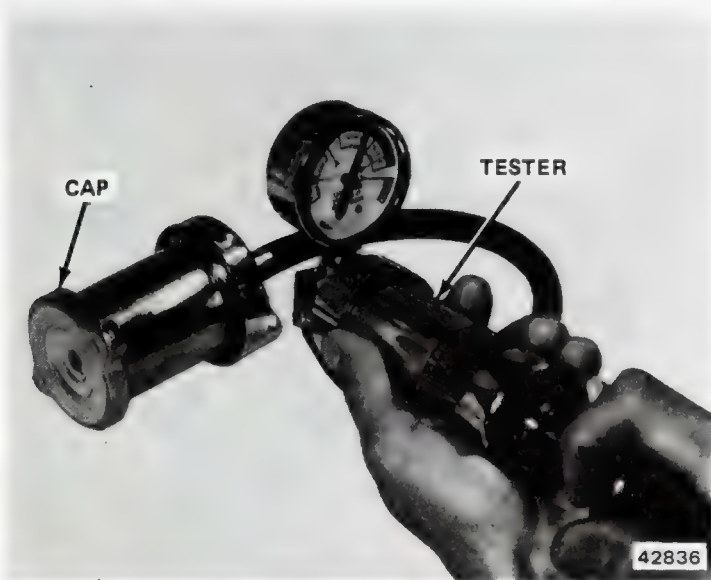

Fig. 1C-9 Radiator Cap Pressure Test
- (1) Remove cap from radiator.
- (2) Make sure seating surfaces are clean.
- (3) Wet rubber gasket with water and install cap on tester (fig. 1C-9).
- (4) Operate tester pump and observe needle at its highest point. Cap release pressure should be 12 to 15 pounds.